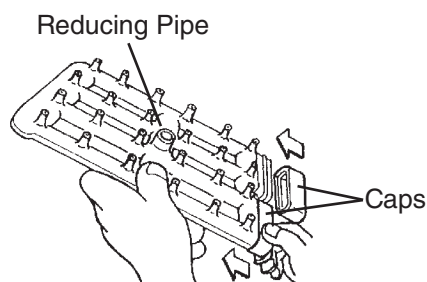

Fig. 42
11. Refit the 2 caps in their correct positions. Make sure the reducing pipe is in place in the center. See Fig. 42.